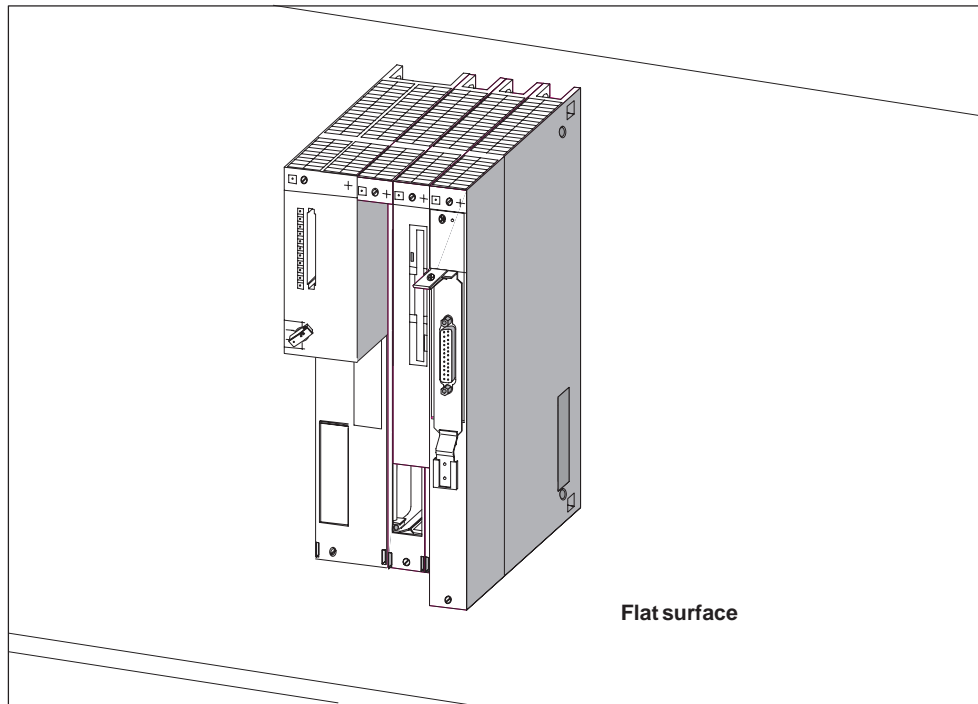

Figure 3-6 Module Group with Application Function Module and Expansion Modules
8. Place the module group on a flat surface (Figure 3-6).